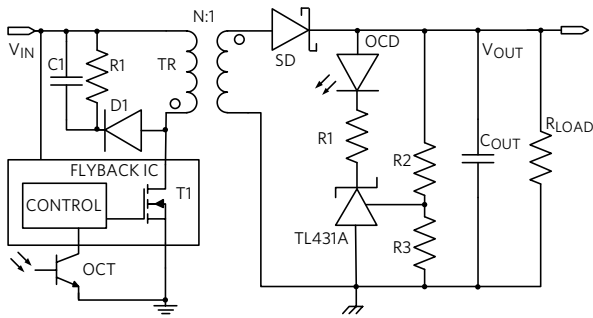

Figure 36. Flyback with Optocoupler
Using galvanically isolated transformers with PWM control is the most common architecture for an isolated DC-DC power supply. The flyback converter is the classic architecture that produces an isolated output. **Figure 36** shows the traditional implementation. During the "ON" time of the transistor T1, the voltage across the primary winding is positive (equal to V_{IN}) and the voltage across the secondary winding is negative. Consequently, the Schottky diode (SD) prevents energy from passing to the output and the energy is stored in the transformer. During the "OFF" time of T1, the primary winding inverts its voltage, which allows the energy to be released to the output. The control loop is quite complex, often requiring a shunt regulator (TL431A) on the secondary to regulate the voltage at the output. An optocoupler and an error amplifier on the secondary-side of the transformer provide the isolated feedback signal needed to close the PWM control loop to the primary side.